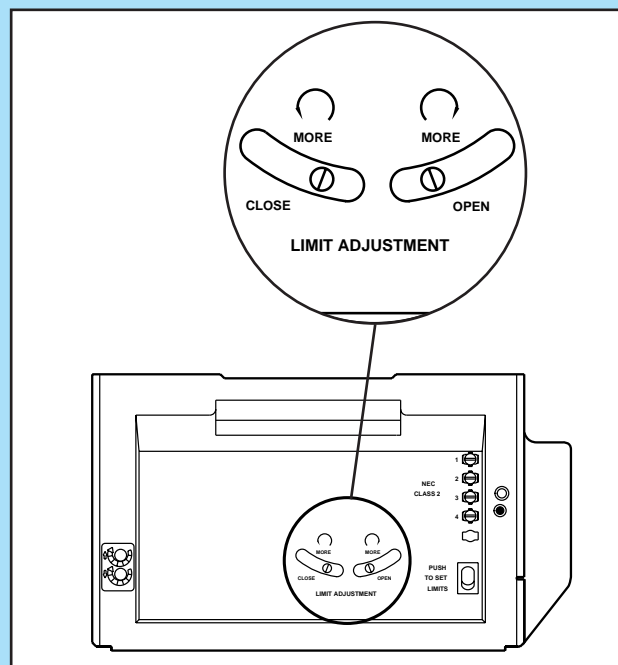

Fig. 8-1
1. **Adjusting the "OPEN" limit switch (Fig. 8-1).**
4. **Adjust the "CLOSE" limit switch (Fig. 8-1).**